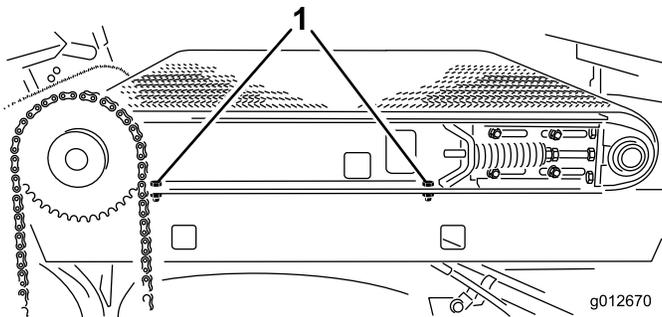

Figure 25
- Loosen (2) capscrews, washers and nut, on right side of machine, securing slider bed to frame (Figure 25). Make sure fasteners are loose enough to allow slider bed to be tipped.